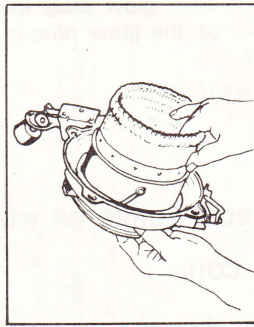
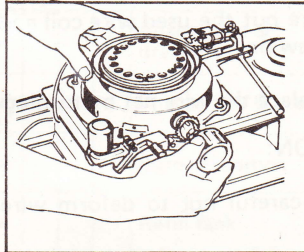

Fig. 23
Fig. 24
- (9) Remove the wick from the wick holder assembly. (Fig. 23)
- (10) Set the lower end of the tape on the new wick to the lower end of holder in the wick holder assembly and smooth the wick in the holder over the wick holding pawls.
- (11) Insert the wick holder assembly with the new wick into the wick guide cylinder so that the wick control shaft points to front. (Fig. 24)